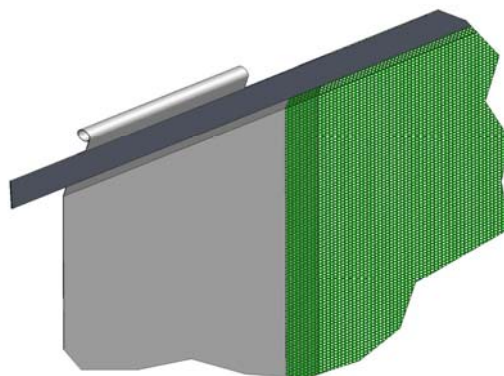

Figure 11
4.1 Orientation of Door Panel (A1): The webbing straps face towards the outside and the top is identified by the two 400mm long x 40mm pockets located at either end of the panel (Figure 11).